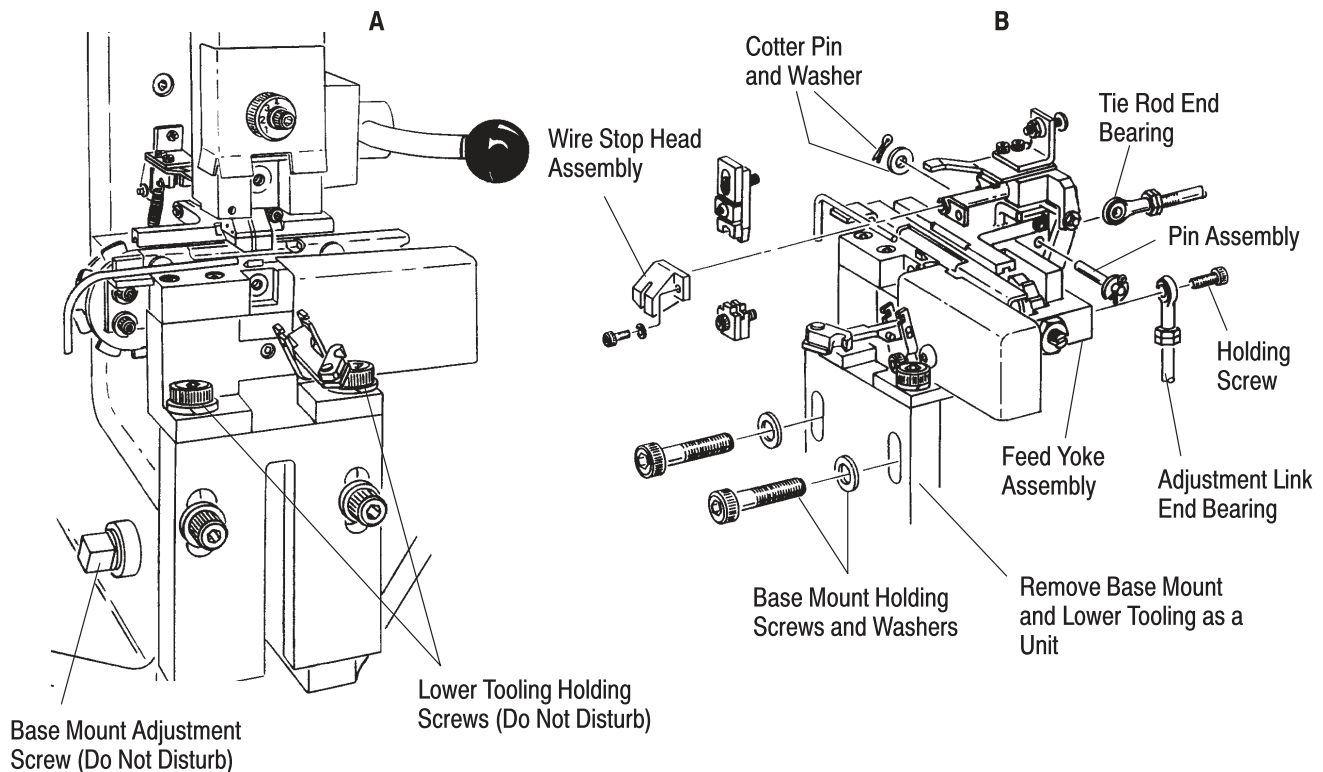
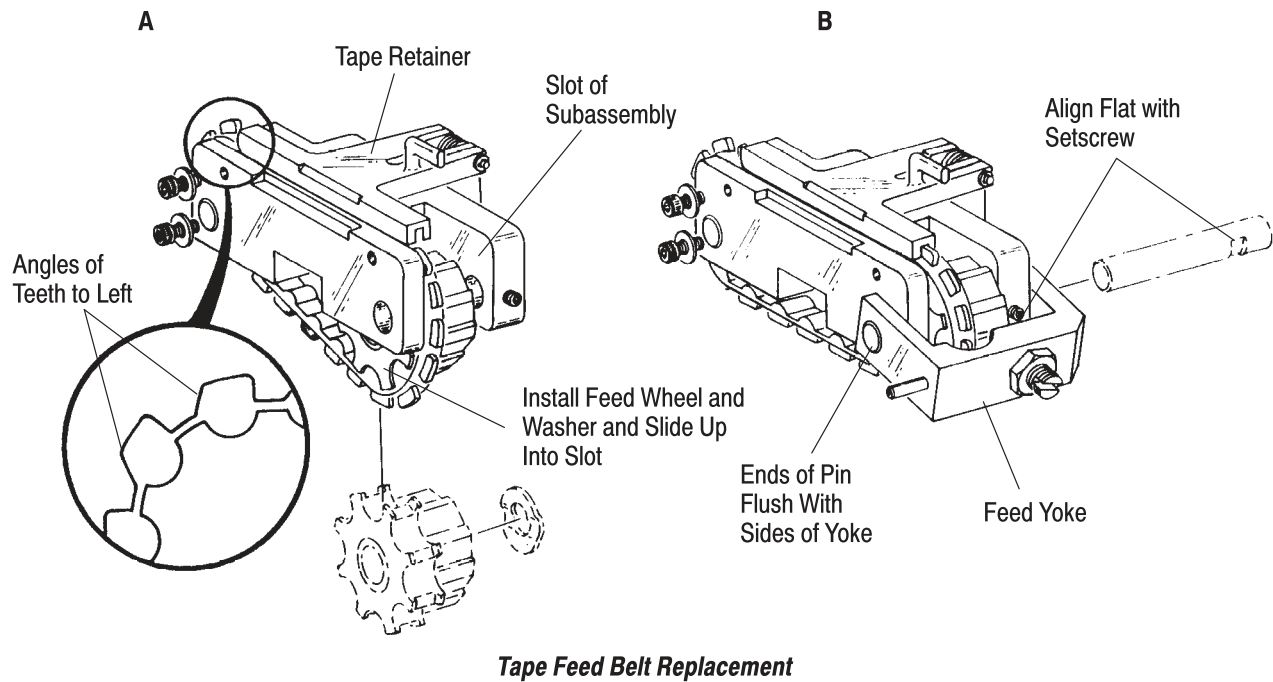

Figure 30
Figure 31
5. Remove one cotter pin and washer, then remove pin assembly from the tie-rod end bearing. Refer to Figure 30,B.
CAUTION *DO NOT disturb the lower tooling holding screws or the base mount adjustment screw, or damage to dies may occur. Refer to Figure 30,A. These screws are factory adjusted, and they control the die alignment and bottoming. If the screws are disturbed, contact your local field service engineer, or call the Tooling Assistance Center for for alignment and adjustment.*
7. Remove base mount holding screws and washers as shown in Figure 30,B, then remove the lower tooling as a unit, as shown.
8. Loosen screws (104) and remove the terminal guide (20).
9. Remove screw (103) and remove metal guard (31).
10. Remove screw (53) and washer (47), then remove wire stop support assembly (11) as a unit.
11. Remove front clamp plate (9) containing pin (117) by removing two screws (46) and washers (47), then remove spring (99) while sliding index unit subassembly off of slide mount (23).
12. Remove the belt holddown (34) by removing two screws (63) and washers (64).
13. Pivot the feed yoke assembly (42) downward to gain access to setscrew (72), then loosen the setscrew. See Figure 31, B
14. Remove special pin (33), washer (54), and feed wheel (32) from the bottom of of the subassembly.
15. Lift the tape retainer (18) and remove old tape feed belt (30).
16. Install new tape feed belt by lifting tape retainer on indexing unit, being sure that angled portion of the belt teeth are to the left of the indexing subassembly assembly as shown in Figure 31,A.
17. Slide the feed wheel, washer, and belt up into the slot of subassembly, then align pin holes and insert special pin. Align flat on pin with setscrew, then tighten the setscrew. The ends of the pin must be flush the sides of yoke, as shown in Figure 31,B.
18. Install belt holddown (34) with two screws (63) and washers (64).
19. Slide the indexing unit subassembly all the way onto slide mount (23): pin inside of yoke (42) must enter slot in connecting link (28).
20. Lay spring (99) in bottom recess in slide mount (23), then compress spring with screwdriver while installing front clamp plate (9) with two screws (46) and washers (47). Release spring to butt against pin (117) in clamp plate.
21. Slide the wire stop support assembly (11) onto slide mount (23) and install screw (53) with washer (47).
22. Install terminal guide (20) and tighten screws (104).
23. Install metal guard (31) with screw (103).
24. Install assembled base mount and lower tooling against machine base and secure with two screws and washers as shown in Figure 30,B. Refer to CAUTION after Step 6.